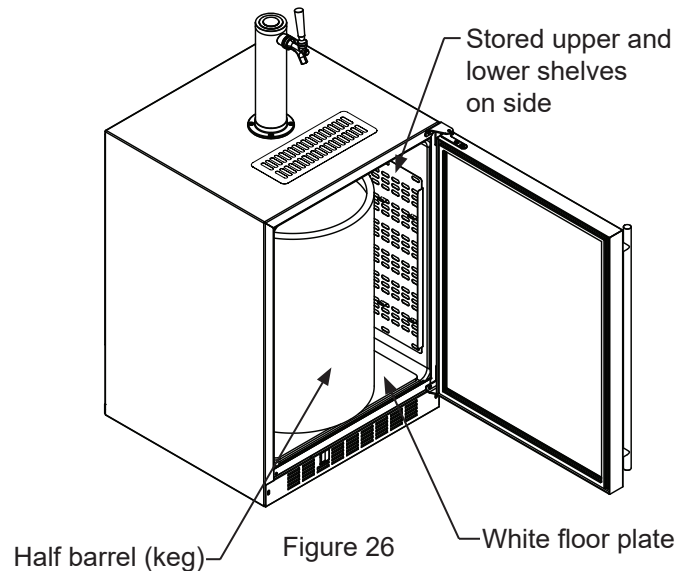

Figure 26
If you are using a half barrel (keg) or (2) 1/6 barrels, place the two shelves on the right side of the keg dispenser on the two mounting hooks for storage. (See Figure 26). Be sure the white floor plate is in the bottom of the interior compartment before positioning the barrel(s).